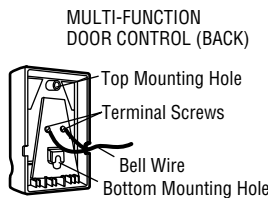

Figure 4
- Remove cover by gently prying at slot in the side of the cover with a small flat head screwdriver (Figure 4). Fasten with 6ABx1-1/4" self-tapping screws (drywall installation) or 6-32x1" machine screws (into gang box) as follows: